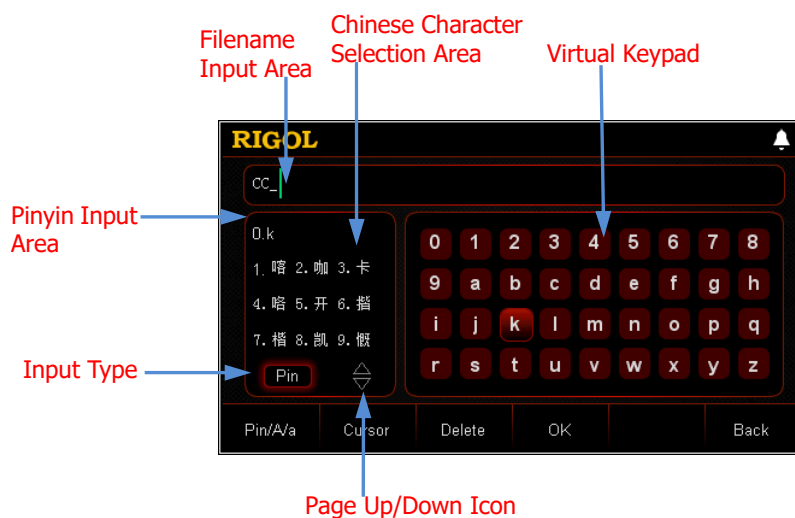

Figure 2-48 Filename Input Interface (Pinyin)
- Pinyin (as shown in Figure 2-48):